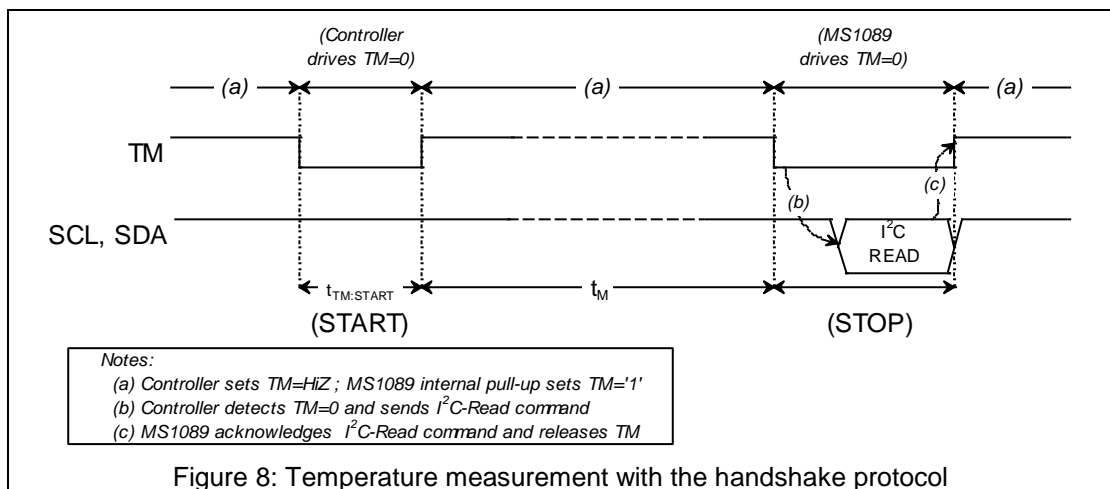

Figure 8: Temperature measurement with the handshake protocol
1. During the TM start pulse ( $t_{TM:START}$  in Figure 8) current flows through the internal pull-up of pin TM. During the TM stop-pulse however, the MS1089 switches off its internal pull-up and so saves power consumption.